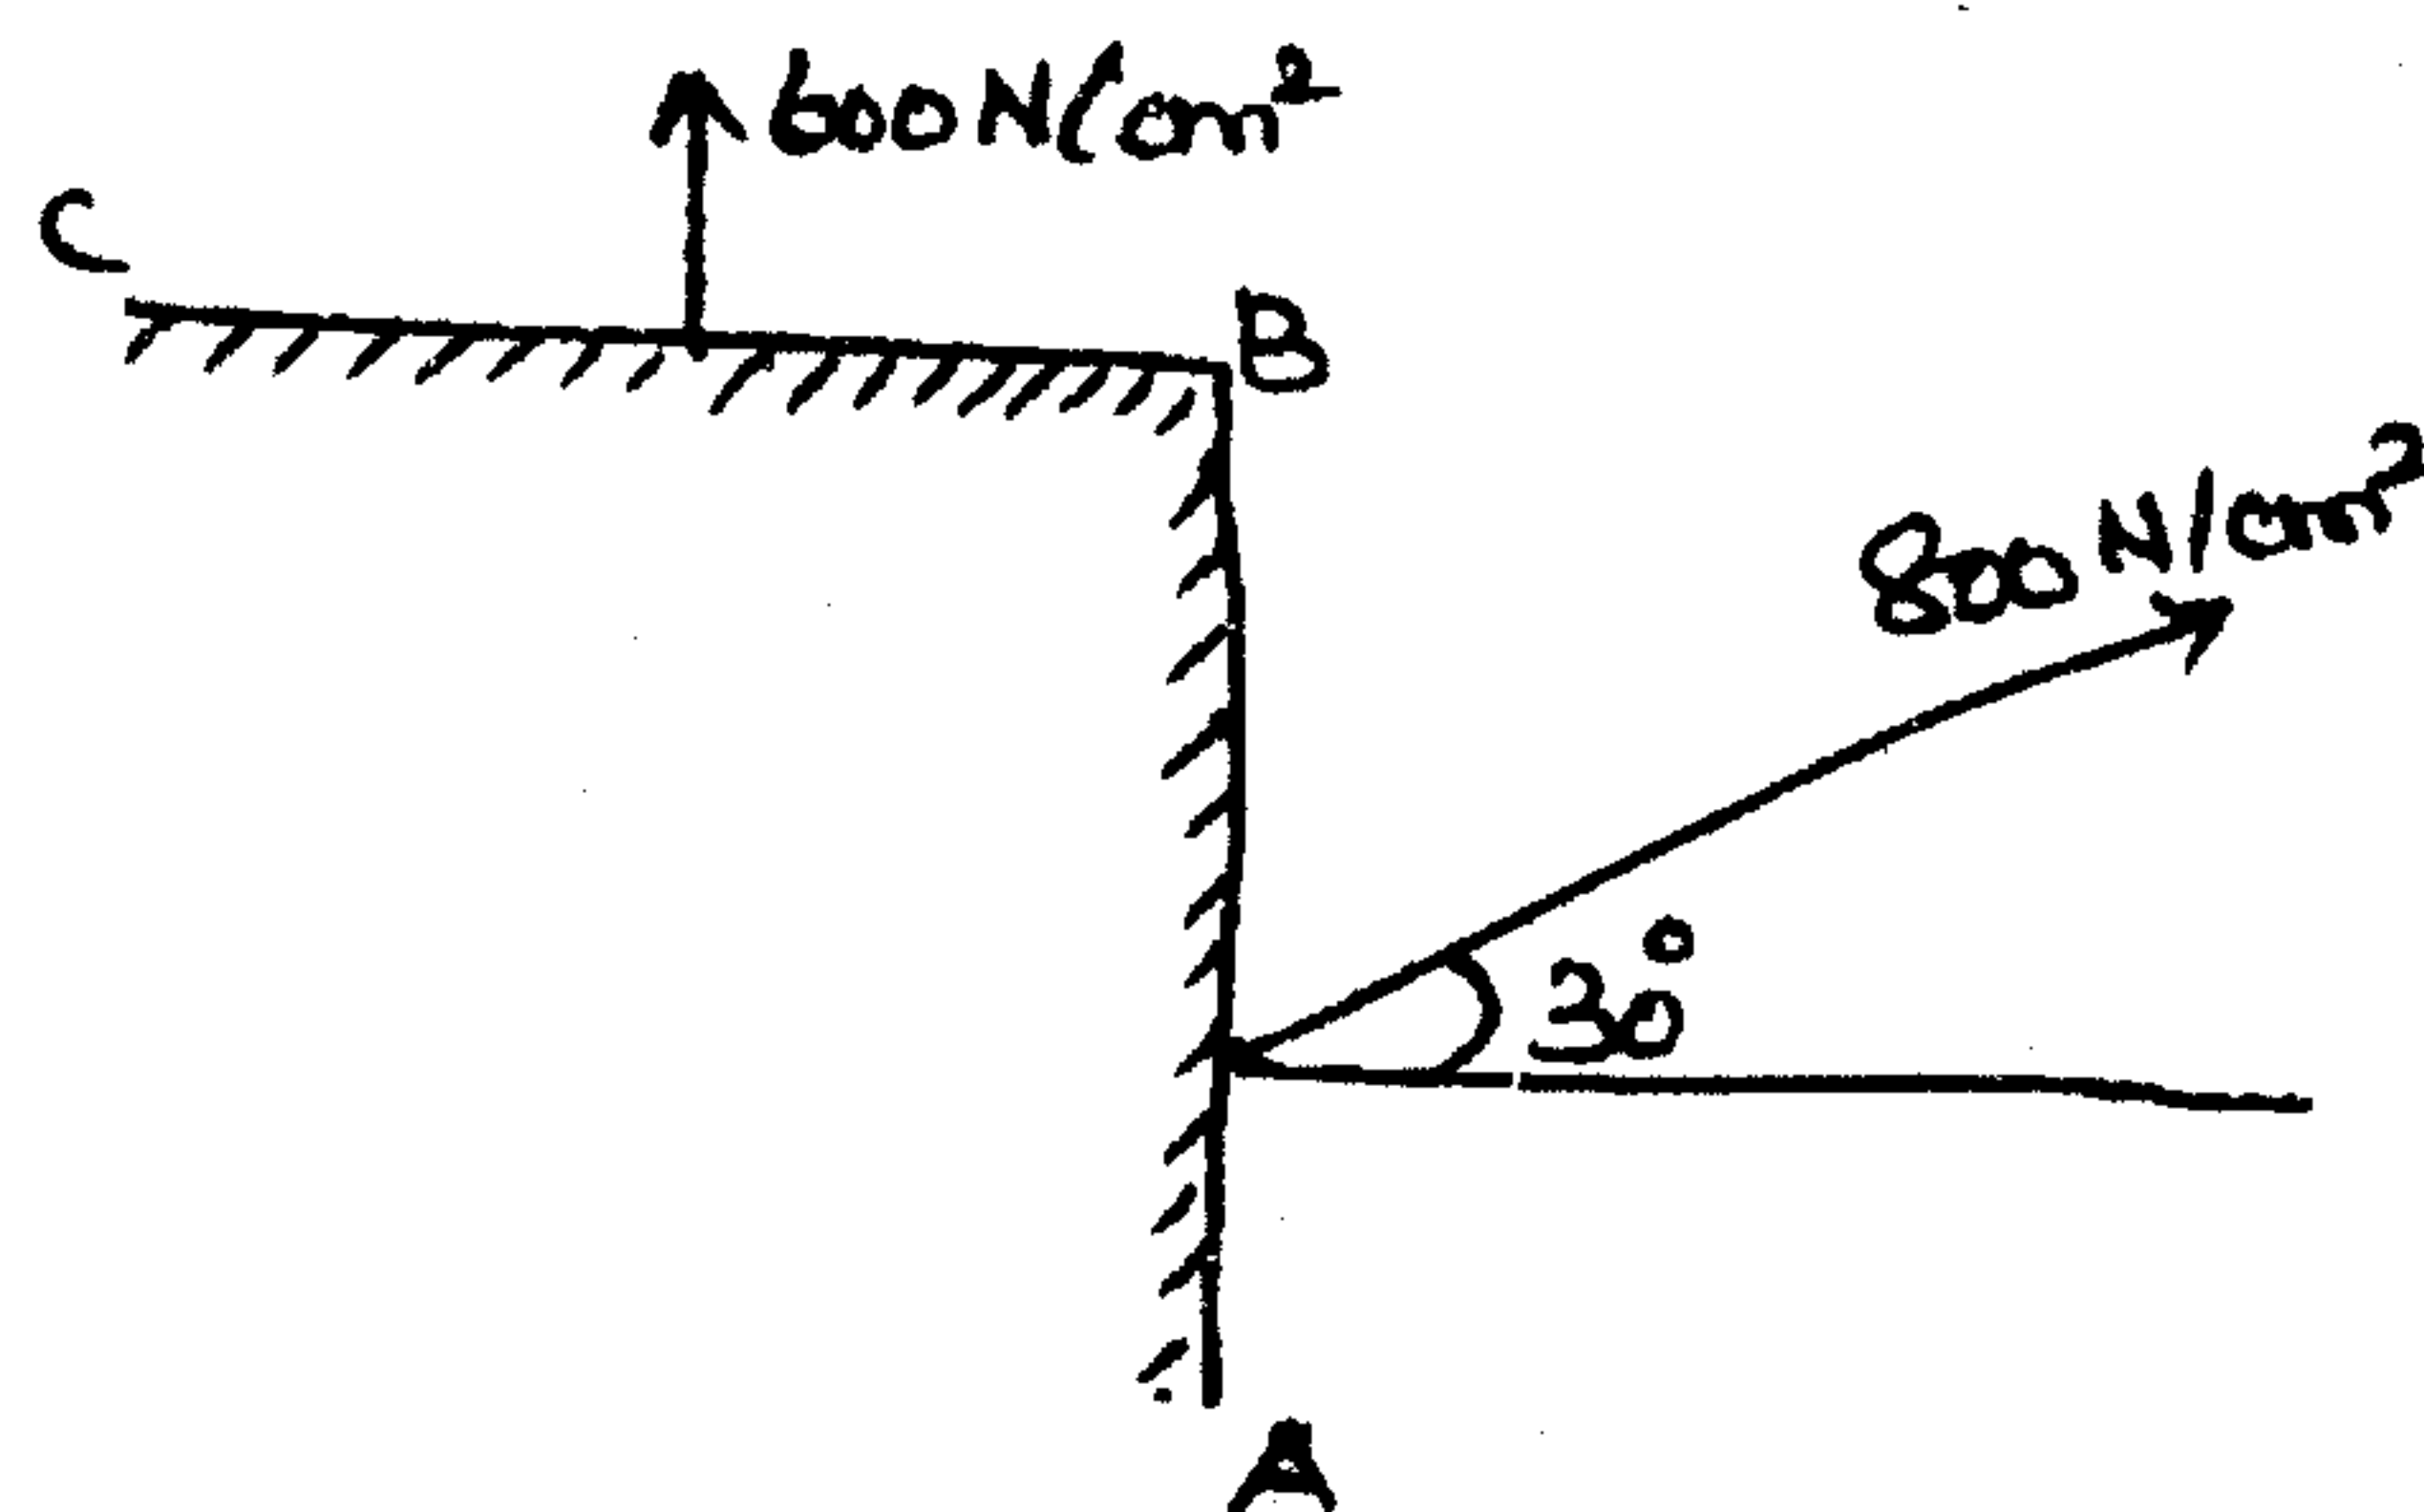

Fig 14.(b)
- (b) The Intensity of Resultant stress on a plane AB Fig. 14(b) at a point in a material under stress is  $800 \text{ N/cm}^2$  and it is inclined at  $30^\circ$  to the normal to that plane. The normal component of stress on another plane BC at right angles to plane AB is  $600 \text{ N/cm}^2$ .